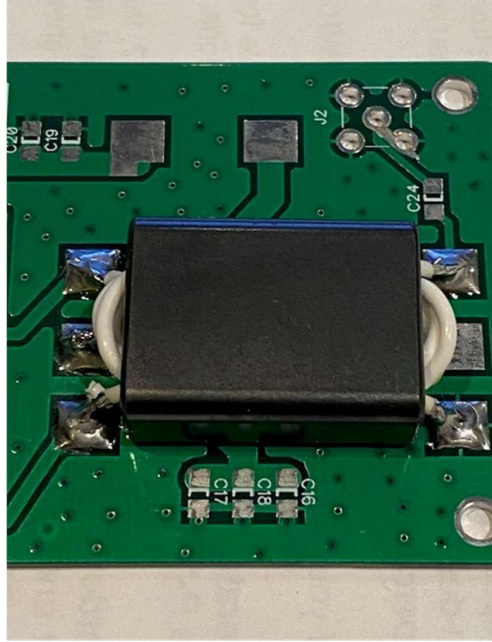

Figure 22. T3 Transformer Soldered In Place On The PCB.
- x. Solder T3 down to the PCB. You can get it tight to the board by soldering down the primary and then using forceps or a small needle nose pliers to hold the secondary leads in place for soldering. The finished product should look like Figure 22.